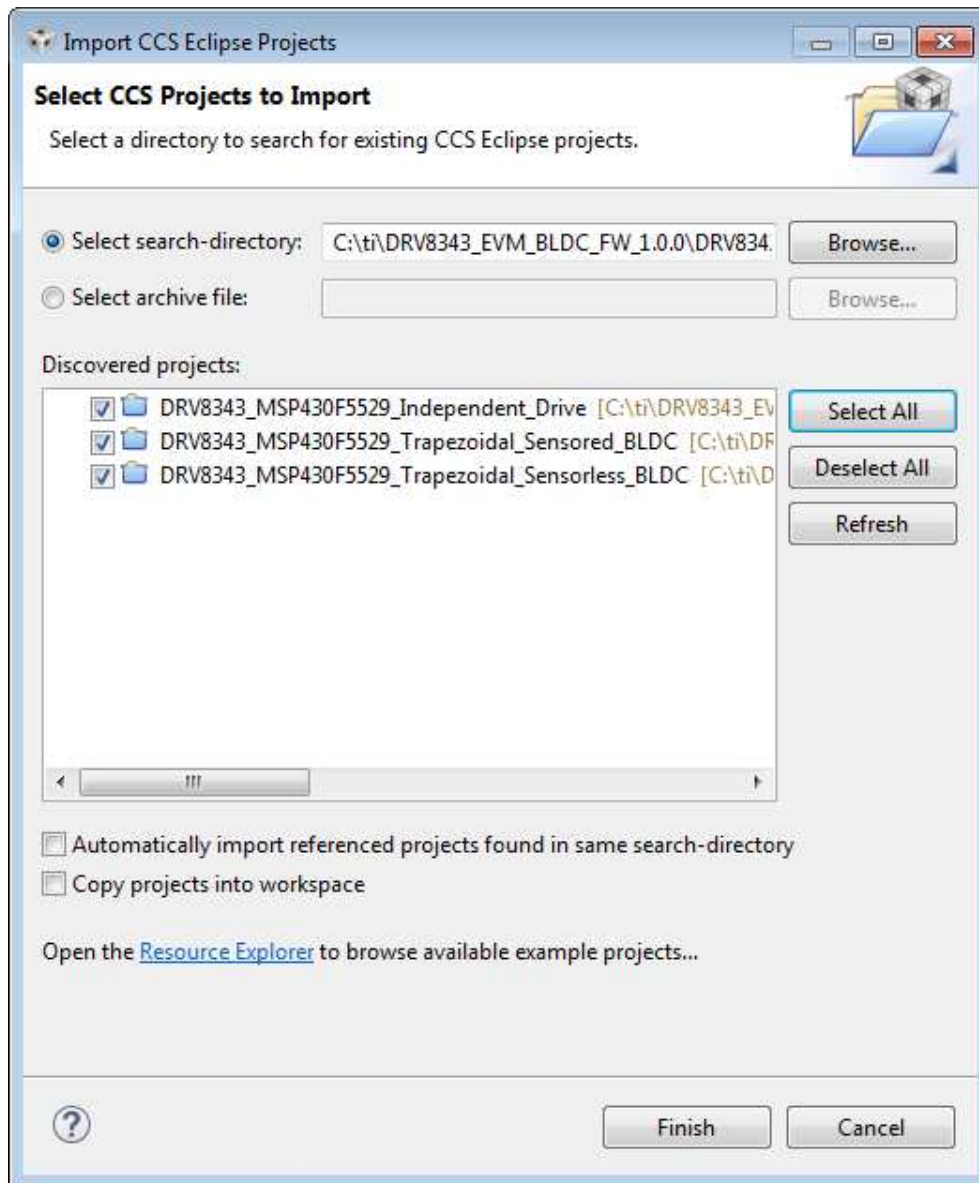

Figure 22. Select Projects to Import
Step 5. In the new window that appears showing the import options, click the *Browse...* button and find the provided projects through the folder browser. These projects are located in the SDK installation directory. The default location of the root folder is under C:\ti (see Figure 22). When selected, the provided project appears under *Discovered Projects*.
Step 6. Make sure the correct box is checked and then click the *Finish* button (see Figure 22).